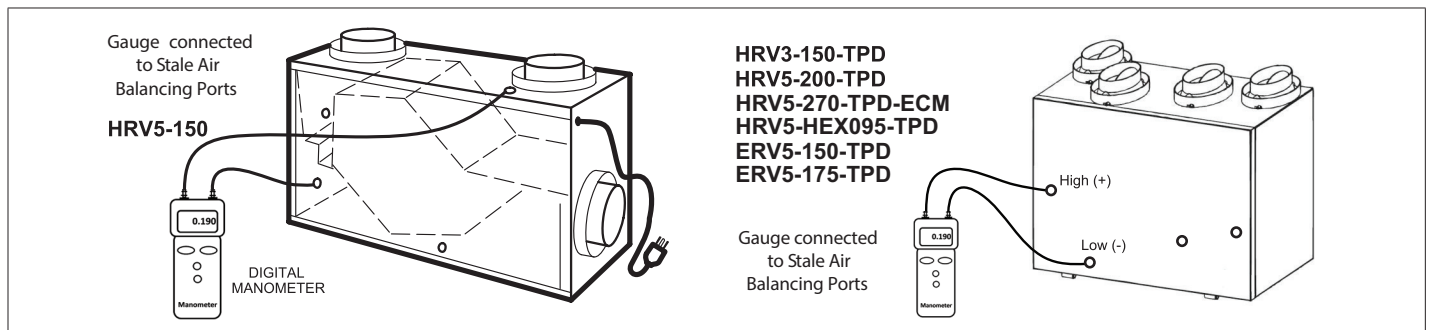

Figure 51. Door Balancing Ports - Stale Air
5. Measure Stale Air Insert the two rubber fittings from the gauge to the STALE AIR Balancing Ports (see Figure 51 on page 41). Seal the FRESH AIR Balancing Ports (upper left and lower right) with tape. Record your reading.